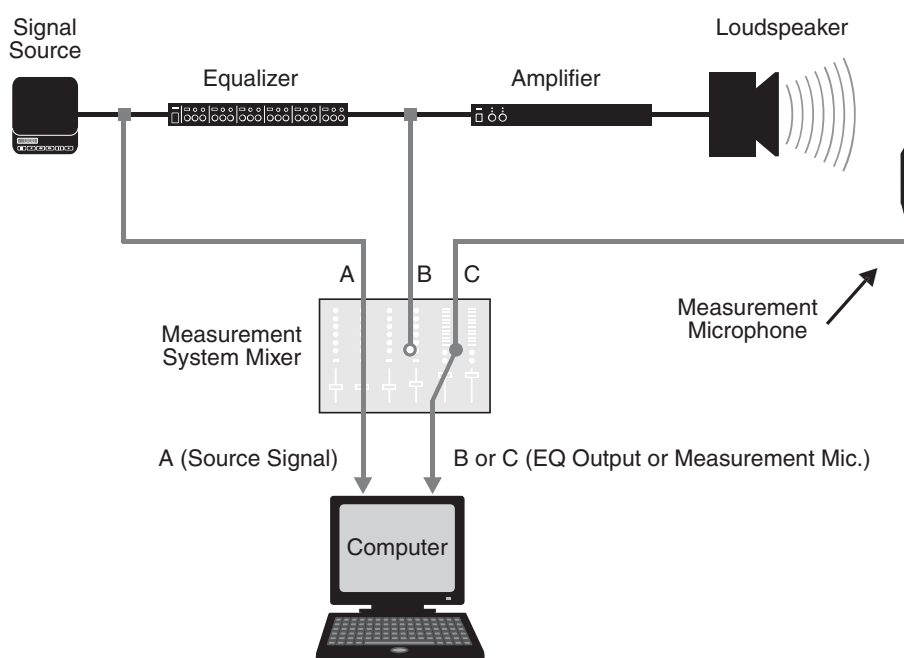

Figure 4-10 Setup to measure and equalize a loudspeaker
Connect the following components as shown in Figure 4-10:
The addition of a mixer allows quickly switching between measurement of the loudspeaker and equalizer. You could accomplish the same thing by repatching cables or, if your computer has a multichannel audio interface, bringing the two measurements signals into separate input channels and switching between them in Smaart. If using a mixer, be sure to pan the reference signal input channel (signal A in Figure 4-10) all the way right and pan the channels for the two measurement signal points (signals B and C) all the way left.
1. Set the mixer controls so that input signal A (in Figure 4-10) is routed to Smaart's reference signal input on your computer and C is sent to Smaart's measurement channel. The output of the equalizer (input signal B) is not used for the first measurement and should be muted or turned all the way down.
7. Change signal routing so Smaart's reference and measurements inputs are your signal source and the output of the equalizer, respectively (mixer inputs signals A and B in Figure 4-10). The signal from the microphone should now be muted.
1. Connect the system as shown in Figure 4-10. This allows using the EQ without switching the input signals to the computer.